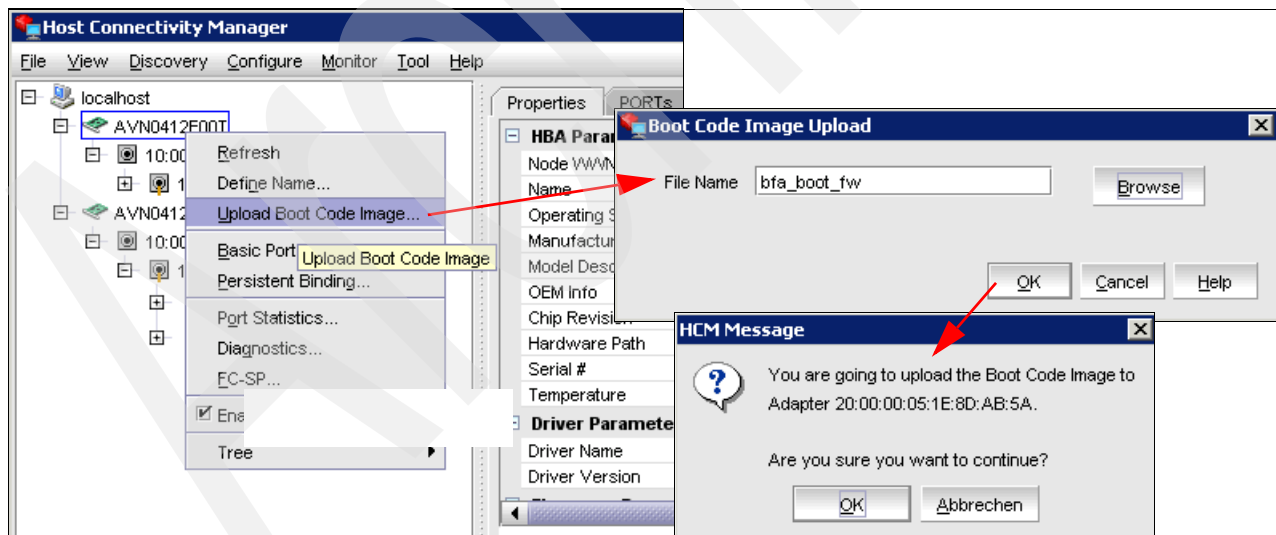

Figure 7-29 HCM update firmware
1. Start HCM and log in to the agent. The HCM window opens, as shown in Figure 7-29.